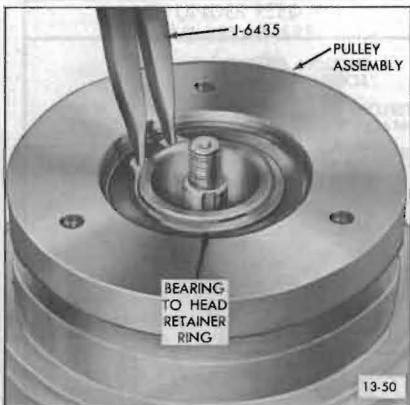

Figure 13-50—Removing or Installing Bearing to Head Retainer Ring
2. Using No. 26 truarc pliers (J-6435) take out bearing to head retainer ring (see Figure 13-50).
5. Lock pulley assembly in position with bearing to head retainer ring (flat side of retainer ring downward) using No. 26 truarc pliers (J-6435). See Figure 13-50.